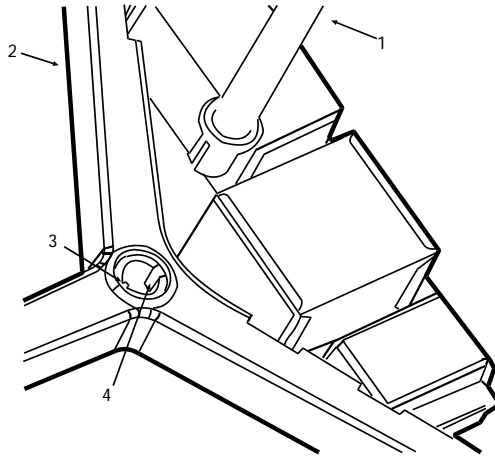

fig.7 Assembly of the lamps stand
Fit the upstand into the slot in the mobile base. Ensure the slot in the upstand engages the corresponding keyway in the base (fig.7)
- unscrew the cover (item.1, fig.7)